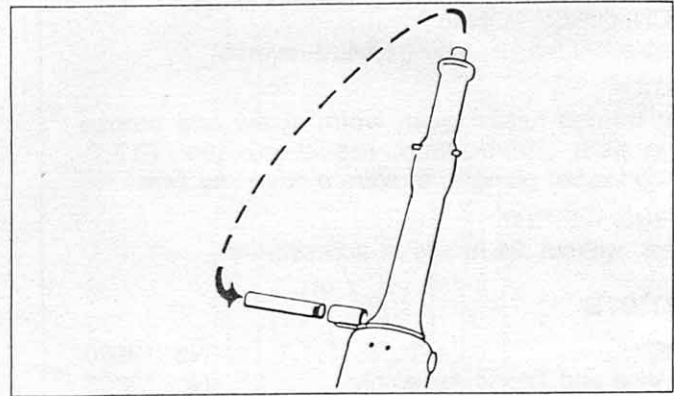

Figure 10 — Screw Torque Rod into Torque Bracket
2. Unscrew the Torque Rod from the end of Mini-Collins handle and screw into Torque Bracket on side of machine. (Fig. 10)